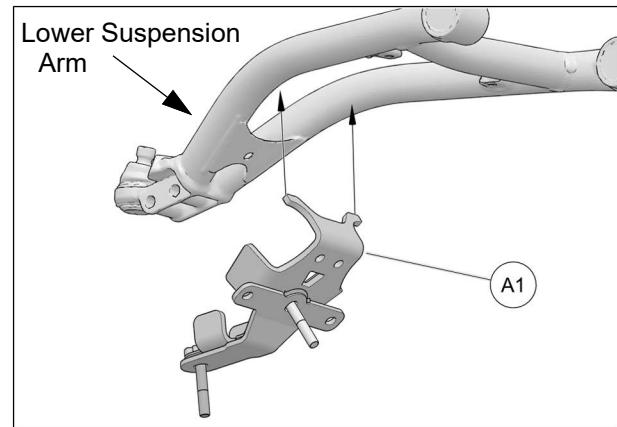

Fig. 15
6. Position bottom part of anchor bracket (A1) under lower suspension arm. Hook back end of bracket on suspension arm members. See Fig. 15